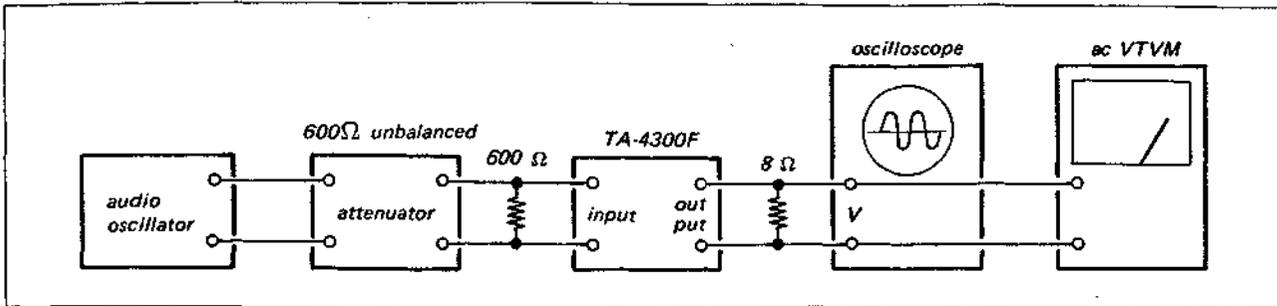

Fig. 3-1 Level check test setup
With the equipment connected as shown in Fig. 3-1, follow the procedures given in Table 3-1.
Connect the equipment as shown in Fig. 3-1. Then, set the controls and switches as follows:
1. With the equipment connected as shown in Fig. 3-1, feed a 1 kHz, 2 dB signal to the INPUT connectors.
1. With the equipment connected as shown in Fig. 3-1, adjust the LOW LEVEL control to obtain a 0 dB output signal level when supplying a 20 Hz, +2 dB signal and the BASS BOOST switch (S2) is set to 0 dB.
1. With the equipment oconnected as shown in Fig. 3-1, check the output level while changing the input signal frequency as directed in the Table 3-6.